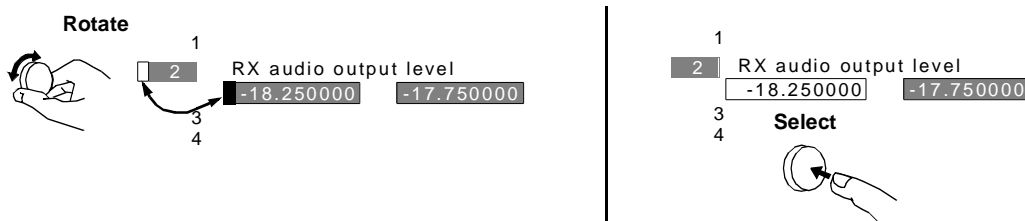

Figure 48
- 6 Position the cursor and select the **Lower Limit** value field (see figure 48).